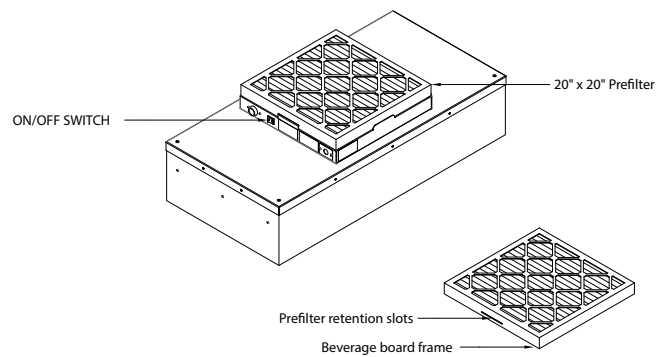

Figure 5: G4 Prefilter Placement
Step 3. Remove the prefilter from the snap-in frame. The beverage board frame has slots that have to be depressed to release the filter from the prefilter housing (See Figure 5, above.)